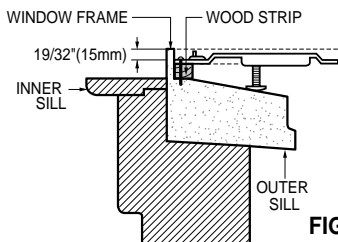

FIG. 9
- Dimensions and geometry of windows are different according to manufacturers. Check your window and refer to FIG.9 to install the support bracket firmly.